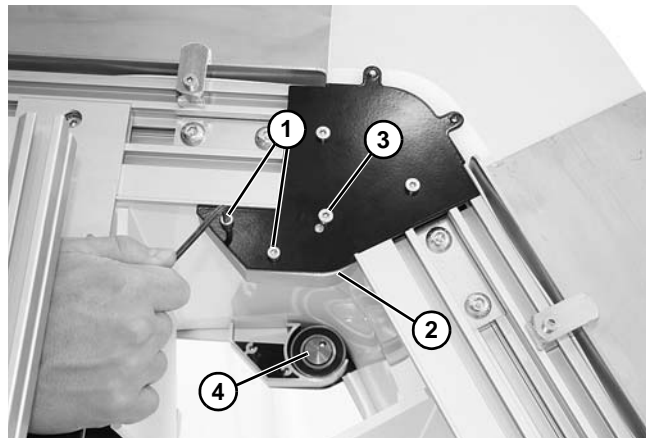

Figure 43
4. If equipped with an upper knuckle, remove screws (**Figure 43, item 1**) and remove guard (**Figure 43, item 2**) on both sides of knuckle.
5. Remove screws (**Figure 43, item 3**) and remove roller bearing (**Figure 43, item 4**) on both sides of knuckle.